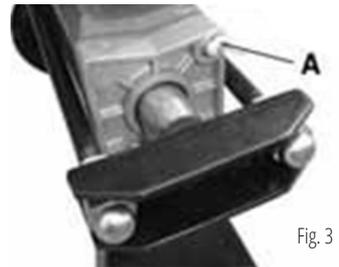

Fig. 3
4. Before operating the log splitter, the bleed screws (Fig. 3) should be loosened by 3-4 turns to allow the air to go in and out of the oil tank. Re-tighten the screw when the work is complete or when moving the log splitter to avoid oil leaks.
Press the green button to stop the log splitter. Tighten the screw (Fig. 3) and unplug the appliance when operation is finished. Re-tighten the screw when the work is complete or when moving the log splitter to avoid oil leaks.